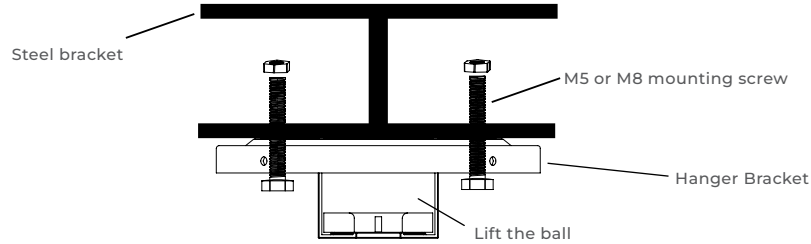

FIGURE 1
**A)** Secure the hanger bracket to the steel bracket on ceiling with M5 or M8 mounting screws and nuts. (See Figure 1)